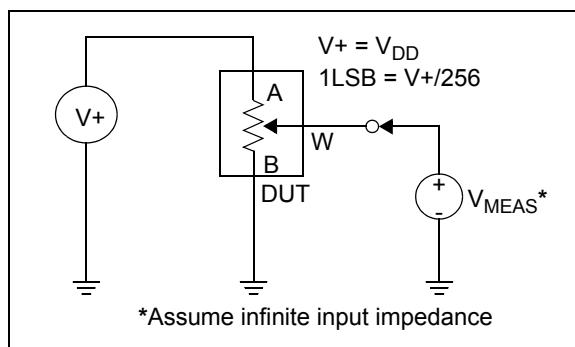

FIGURE 2-25: Potentiometer Divider Non-Linearity Error Test Circuit (DNL, INL).
- 4:** Resistor terminals A,B and W have no restrictions on polarity with respect to each other. Full-scale and zero-scale error were measured using Figure 2-25.